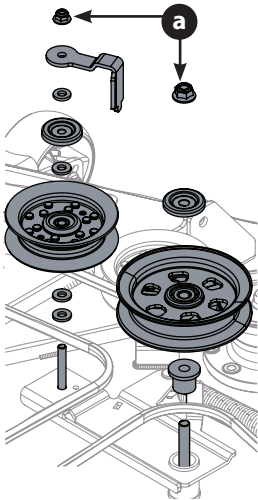

Figure 56
- Remove the two idler pulley assemblies by removing the flange lock nuts (a) at the top of the assemblies, then removing the assemblies from the idler arm (Figure 56).